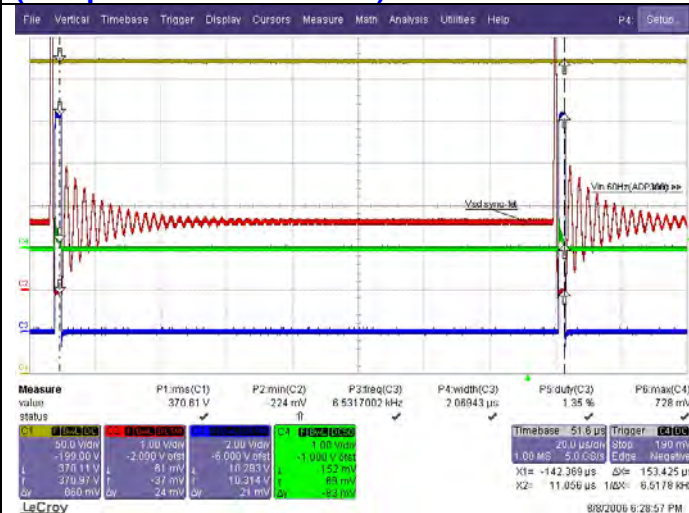

**Fig. 6G - 90Vac in, 16Vout / no load (recaptured – closer view)**
3. The IR1166 IC start its sync rect oper'n only after ~3 msec from the first switching of the primary section. The body diodes of the sync rect mosfets act as the passive rectifiers during this particular period. The Gate drive (fsw : ~7.3kHz) pulses became so narrow after the output voltage stabilizes and reached the regulation at no load condition (-see Fig. 6G for more details).